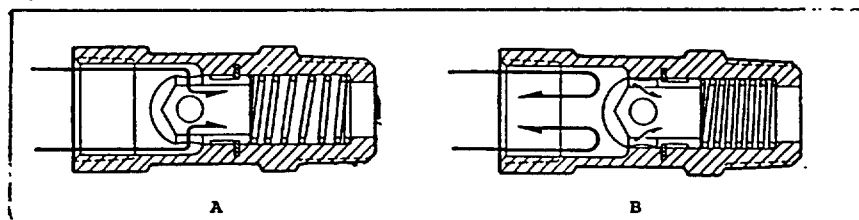

FIGURE 1
- Reference Figure 1, below, which shows a typical valve in cross section, noting that: